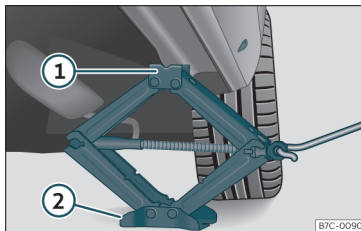

Fig. 63 Crossbar: mounting the jack on the vehicle.
- Turn the jack* crank handle, located below the strut support point, to raise it until the tab ① >>> Fig. 63 is below the housing provided.
- Align the jack* so that tab ① “grips” onto the housing provided on the strut and the mobile base ② is resting on the ground. The base plate ② should fall vertically with respect to the support point ①.